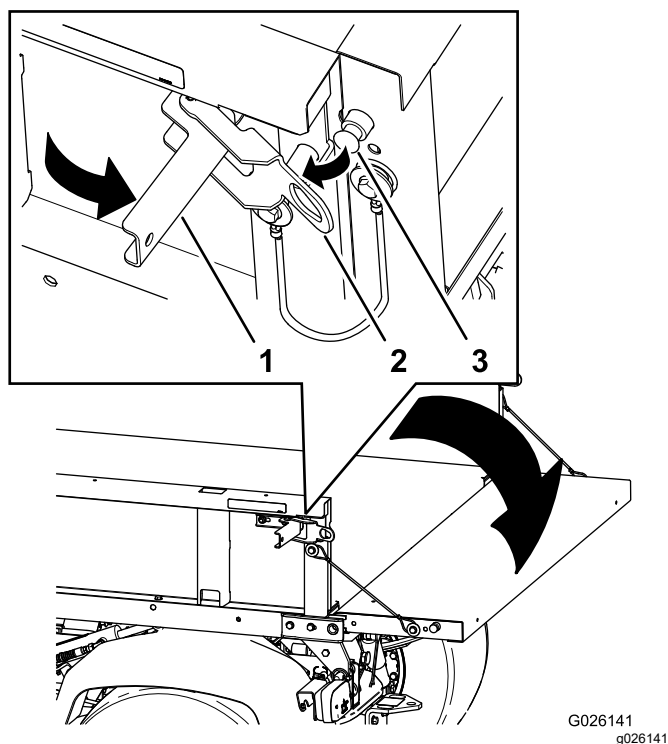

Figure 16
2. Open the latches on the left and right side of the cargo bed and lower the tailgate (Figure 16).